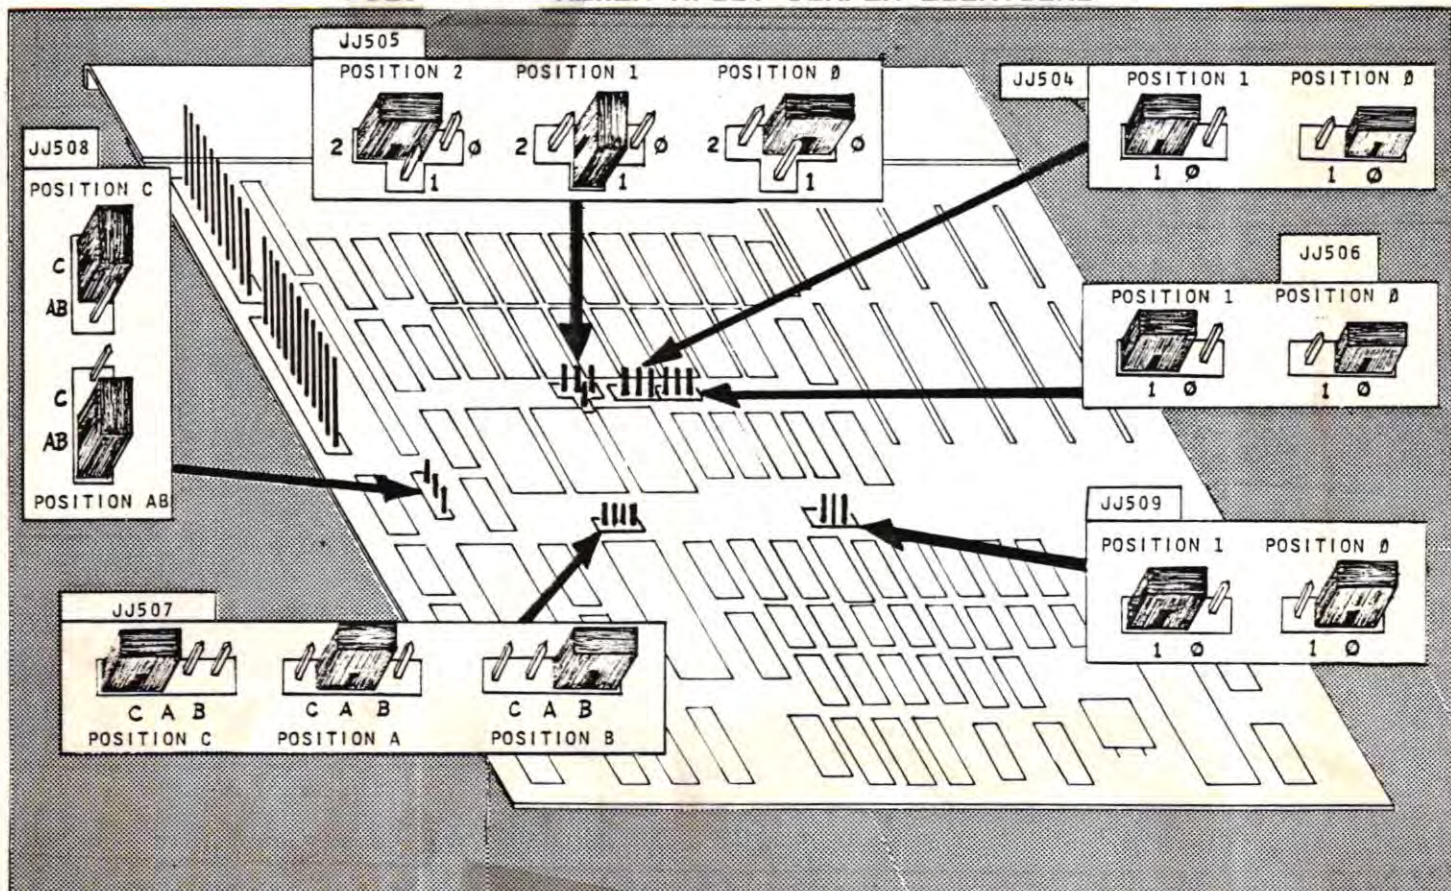

FIG. 1-12 H-1000 JUMPER LOCATIONS
- () JJ507 on the H-1000 has three positions: "A", "B", and "C" (see fig. 1-12). To determine the correct position, look at JJ505 and JJ507 on your old CPU board. Then do ONE of the following: